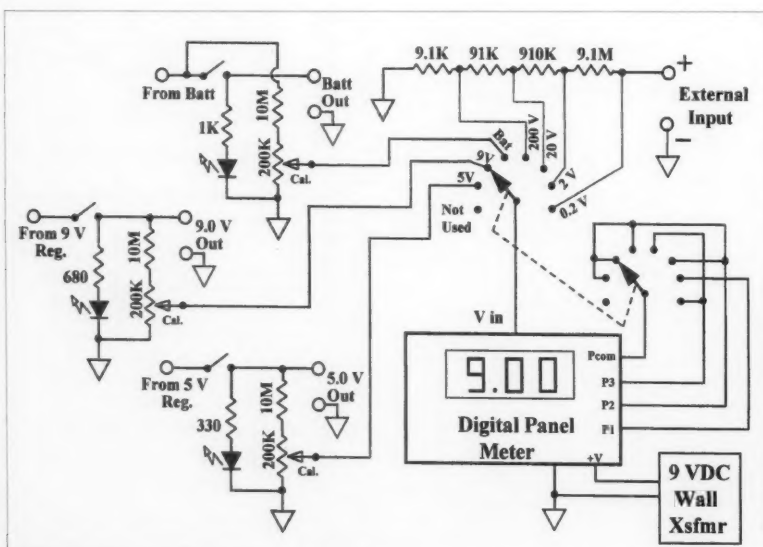

Fig. 4. Switching and voltage divider wiring diagram.
Fig. 4 shows the digital voltmeter switching, resistor dividers, and associated components. The three 200k calibration pots should be adjusted by (1) measuring the regulator output voltages with a known accurate DMM, and (2) adjusting each pot so that the panel meter reads correctly. Note from Fig. 4 that the battery voltage to the panel meter is not switched on and off as are the five-volt and nine-volt regulator outputs. That way, the panel meter monitors the battery voltage any